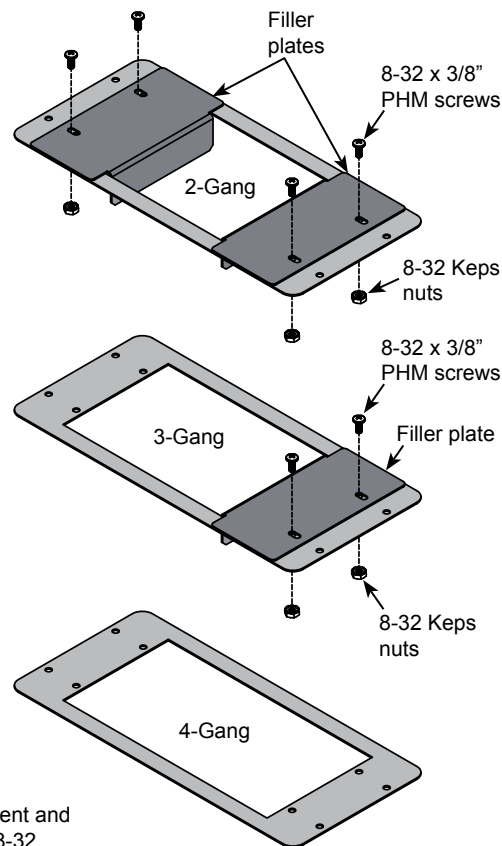

Figure 2
- Determine which configuration you will be using (2, 3, or 4-gang) with your control equipment and attach the necessary filler plate(s) to the adapter plate with 8-32 x 3/8" PHM screws, and 8-32 Keps nuts as shown. (2 required per filler plate.) **Figure 2.**